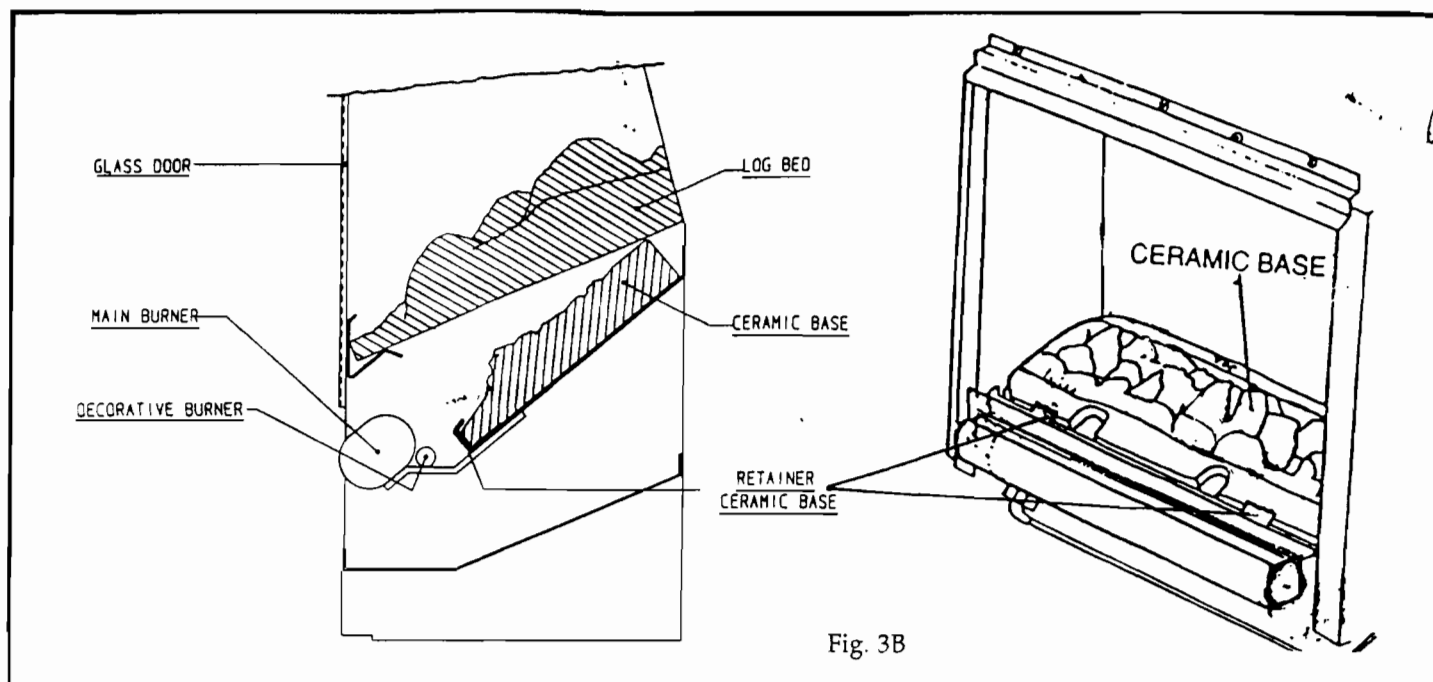

Fig. 3B
- (i) Place the base centrally on the firebox base so that the electrode lines up with its cut-out ensuring that the base is retained by the raised lip of the brackets on the metal base (Fig. 3B) and the word TOP is uppermost.